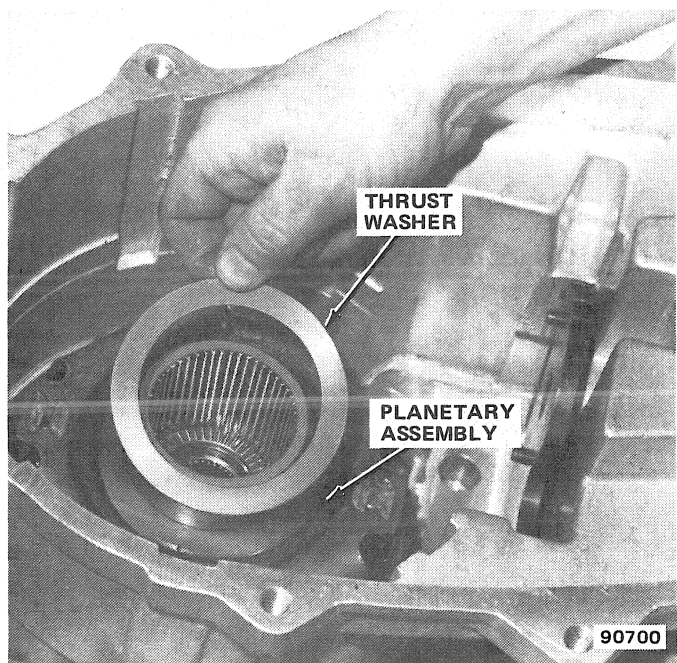

Fig. 2D-60 Planetary Thrust Washer Removal/Installation
(34) Remove input gear and remove input gear thrust bearing and race (fig. 2D-62).